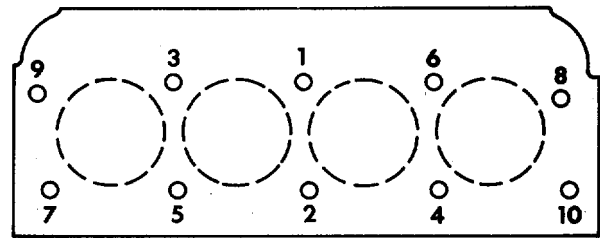

Fig. 151 Cylinder Head Mounting Bolt Tightening Sequence
26. Tighten the cylinder head bolts alternately and evenly in sequence as illustrated in Figure 151 to the torque